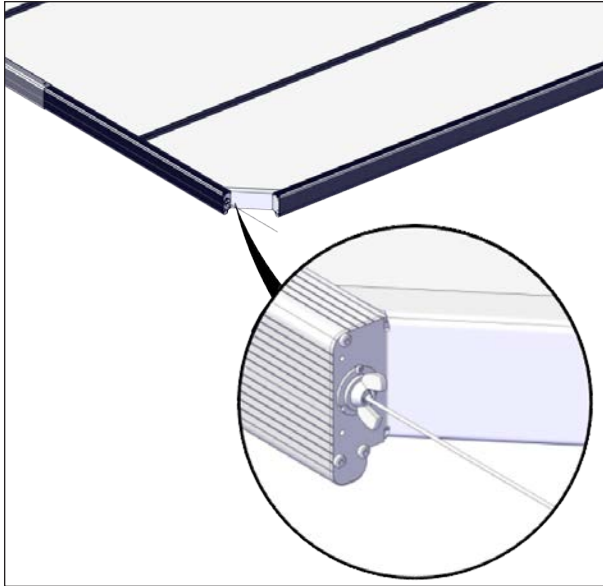

FIGURE 60: INSERT GRIPLOCK INTO THE HEXAGONAL GUIDE BUSHING
8. Insert the Griplock assembly into the hexagonal guide bushing (located in the outside corner bracket support), pull on the wire while pushing on the Griplock as much as possible, see Figure 60.